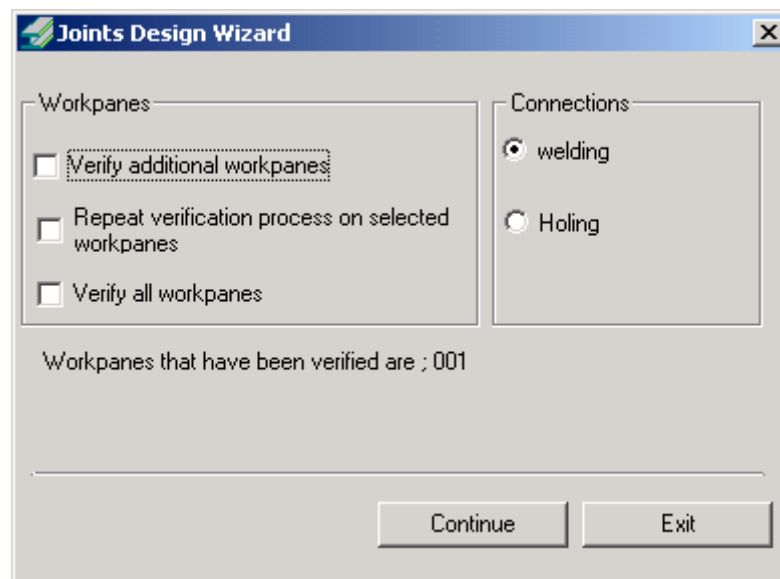

Figure 95 The "Joints Design Wizard" dialogue box.
1. Choose "Connection Design (Truss)" from the "ANALYSIS" menu (Analysis > Connection Design (Truss)) or left-click on the appropriate icon. The "JOINTS DESIGN WIZARD" will appear (figure 95)).